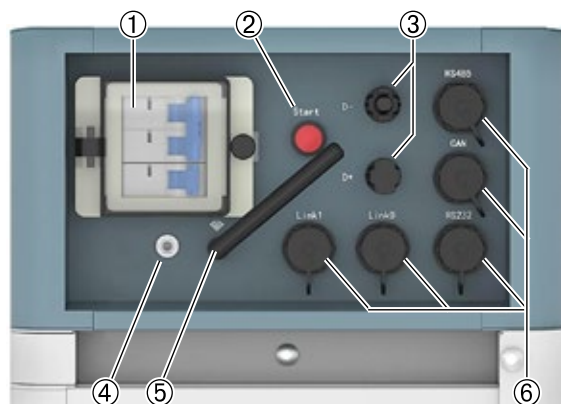

Fig. 3.14 - Control Module (FC0500M-40S)
4. Press start button (2, Fig. 3.14) for at least 5 seconds or until buzzer rings. Battery takes 10-30s for self-checking.
In this case, press the Start button (2, Fig. 3.14) for at least 10s, till the Status lighting Blue and fast flashing, then battery will black start to support inverter and after inverter turned on and set up communication, then BMS is ready for work.